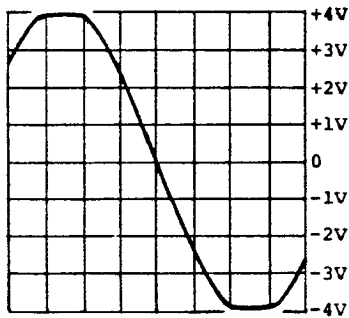

Fig. 8a (100Hz)
Adjustment of the overshoot compensation circuit must always follow the lowpass filter tuning procedure. Setup is the same as called out in the preceding STEP 1. Figures 8a through 8f depict signal waveforms for the various STEPS of the procedure. These appear on the next page.
- STEP 2 Set the generator to 100Hz and increase the level until the observed waveform just starts to flatten at about 8 volts p-p (Fig. 8a).